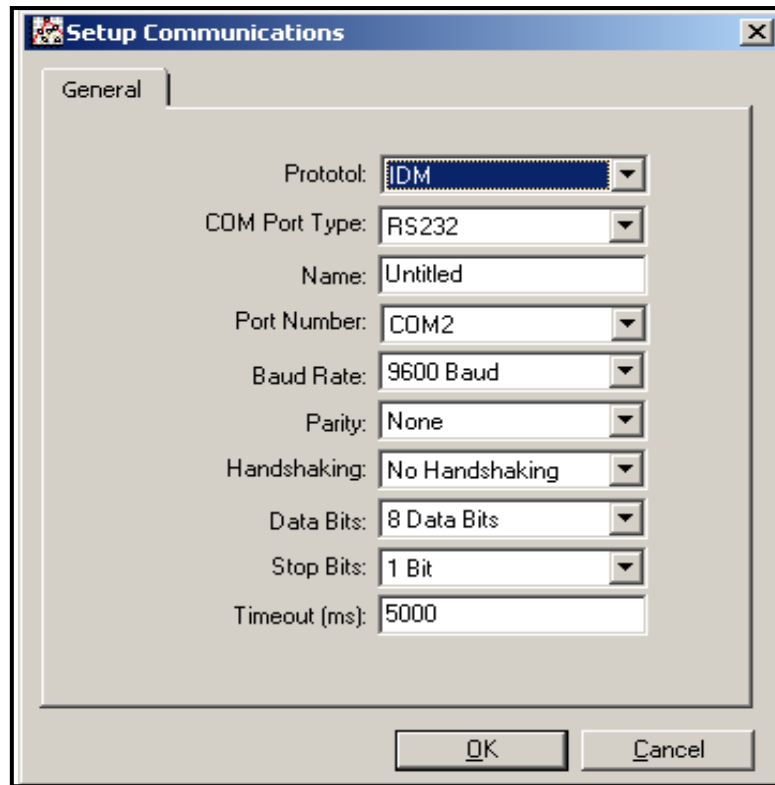

Figure 18: *Setup Communications* Screen
4. Click on the "Communications Port" option to select it. The *Setup Communications* screen appears similar to Figure 18 below.